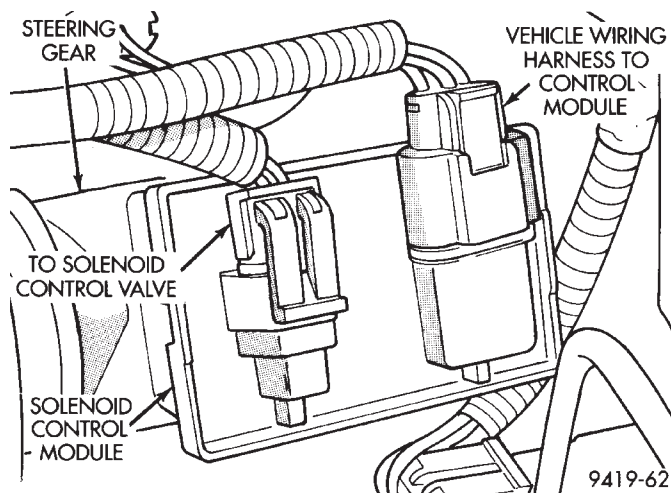

Fig. 7 Wiring Harness Connections To Solenoid Control Module
(1) Remove the electrical connector to the solenoid control valve, at the solenoid control module (Fig. 7).
- (5) Connect the wiring harness connector onto the solenoid control module (Fig. 7). **Be sure the wiring harness connector seal is in good condition before installing the connector in the control module.**
- (6) Road test vehicle or refer to the test using the DRB scan tool, to confirm correct operation of the variable-assist speed-proportional power steering gear.
(7) Remove the steering wheel from the steering column shaft using Puller, Special Tool C- 3428-B or an equivalent (Fig. 7). **Do not bump or hammer on the steering column shaft to remove the steering wheel.**